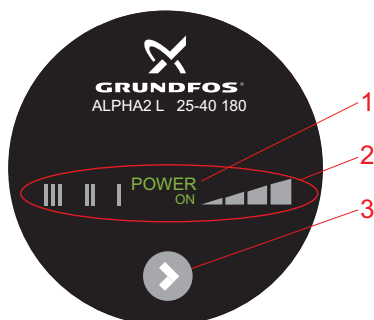

Fig. 8 GRUNDFOS ALPHA2 L control panel
The "POWER ON" light field (fig. 8, pos. 2) is on when the power supply has been switched on.
The pump has seven optional settings which can be selected with the push-button. See fig. 8, pos. 4.
Every time the push-button (fig. 8, pos. 4) is pressed, the pump setting is changed.